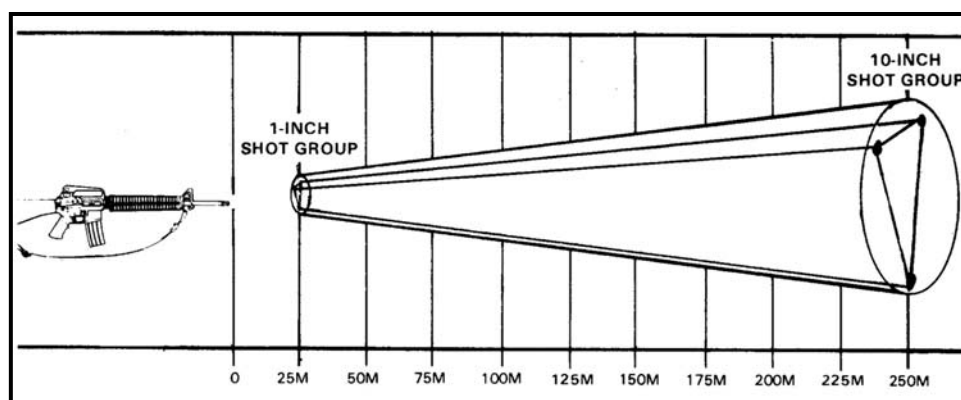

Figure 5-38. Increase in shot-group size as range increases.
(2) **Increase of Shot-Group Size.** Just as the distance covered by a minute of angle increases each time the range increases, a shot group can be expected to do the same. If there are 2.54 centimeters between bullets on a 25-meter target, there will be an additional 2.54 centimeters of dispersion for each additional 25 meters of range. A 2.54-centimeter group at 25 meters (about 3.5 minute of angle) is equal to a 25.4-centimeter shot group at 250 meters (Figure 5-38).